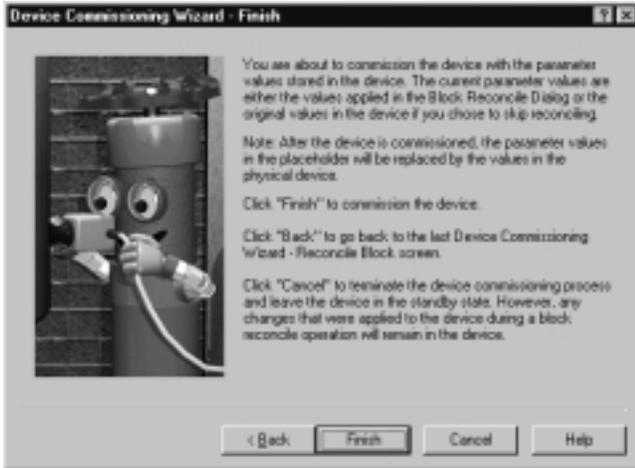

Figure G-12. Device Commissioning Wizard—Finish Window
6. Select Next. The Device Commissioning Wizard—Finish window shown in figure G-12 appears.